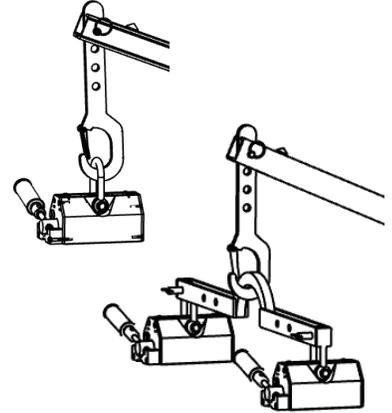

Figure 4
5. Attach the lifting magnet(s) to the dolly. Position the handles of the lift magnets away from the side where the dolly will be attached. Refer to Figure 4.